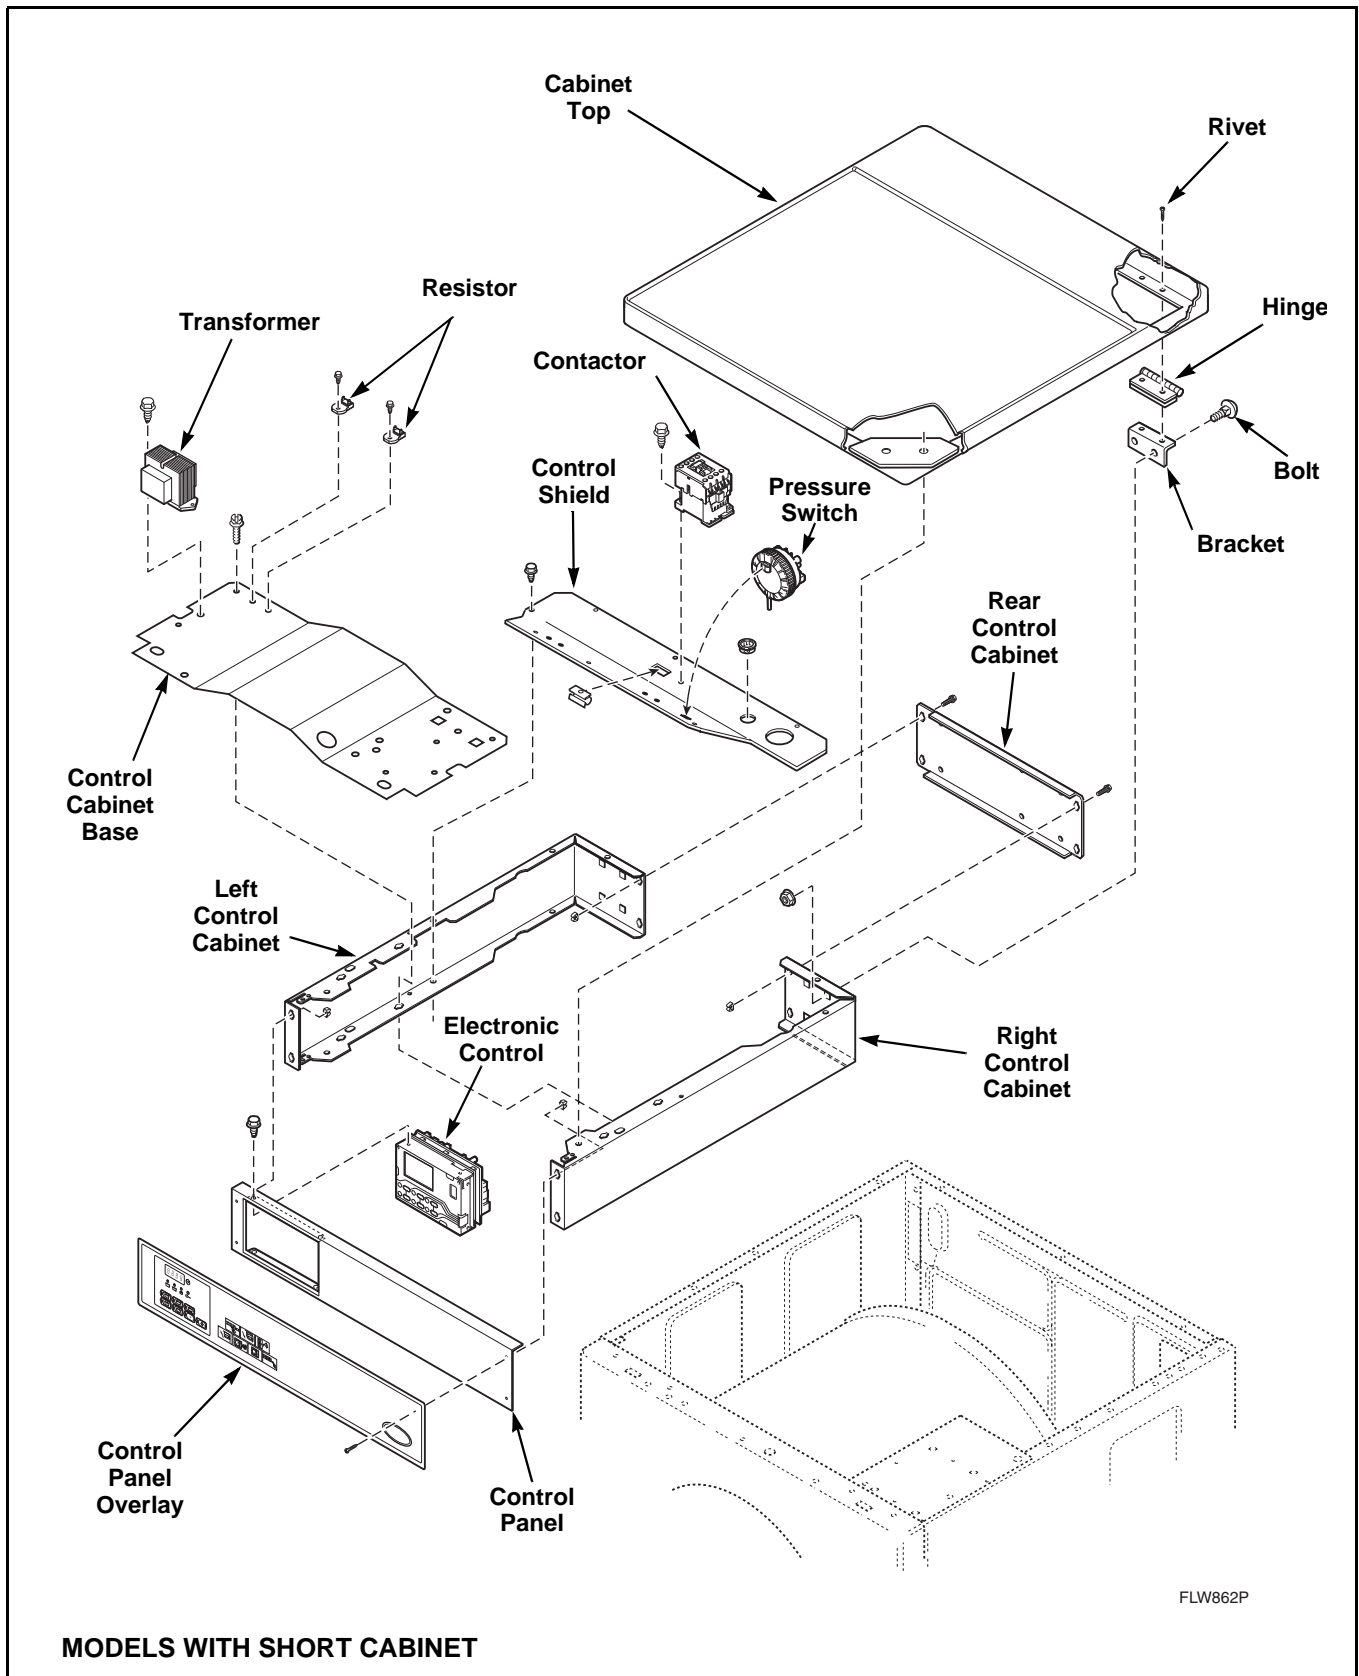

Figure 18
- a. Remove screws holding control panel to control cabinet. Refer to *Figure 18*. Remove panel.
- b. Remove screws holding cabinet top to control cabinet. Refer to *Figure 18*.
- d. Remove cabinet top from washer by removing nuts and carriage bolts holding cabinet top and hinges to control cabinet. Refer to *Figure 18*.
- f. Remove screws holding control cabinet base to control cabinet. Refer to *Figure 18*.
- g. Remove screws holding control shield (with controls attached) to bottom rear flange of control cabinet. Refer to *Figure 18*.
- h. Remove screws holding control cabinet to top flange of side panels. Refer to *Figure 18*.
- j. Remove screws holding left, right and rear control cabinets together. Refer to *Figure 18*.
- c. Remove four screws holding electronic control assembly to backside of control panel. Refer to *Figure 18* or *19*.
- e. While holding new control by its metal edges, place control in opening of control panel and fasten control down with four screws removed in step "c". Refer to *Figure 18* or *19*.
**NOTE:** For proper control alignment, tighten the top two screws first then tighten the bottom screws. Refer to *Figure 18* or *19*.
- a. Remove four screws holding control panel overlay to control panel. Refer to *Figure 18*.